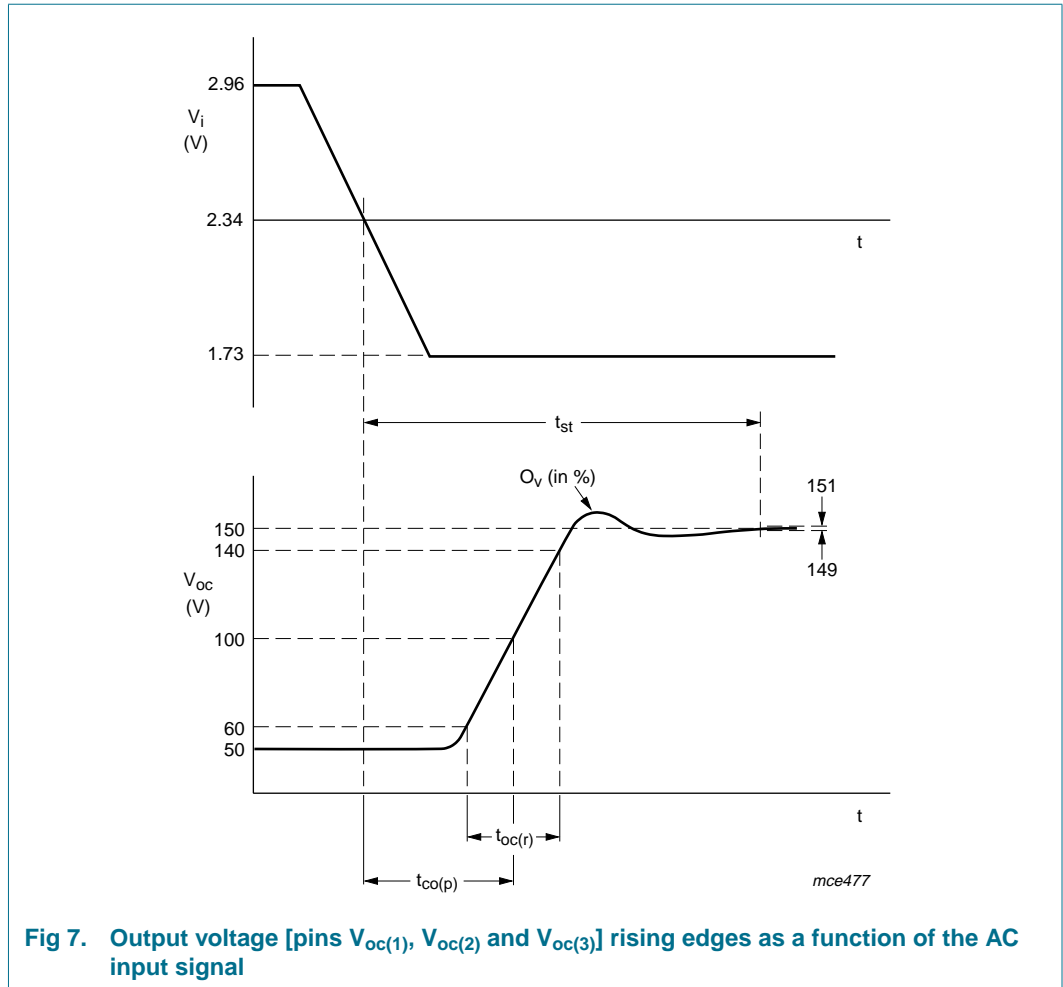
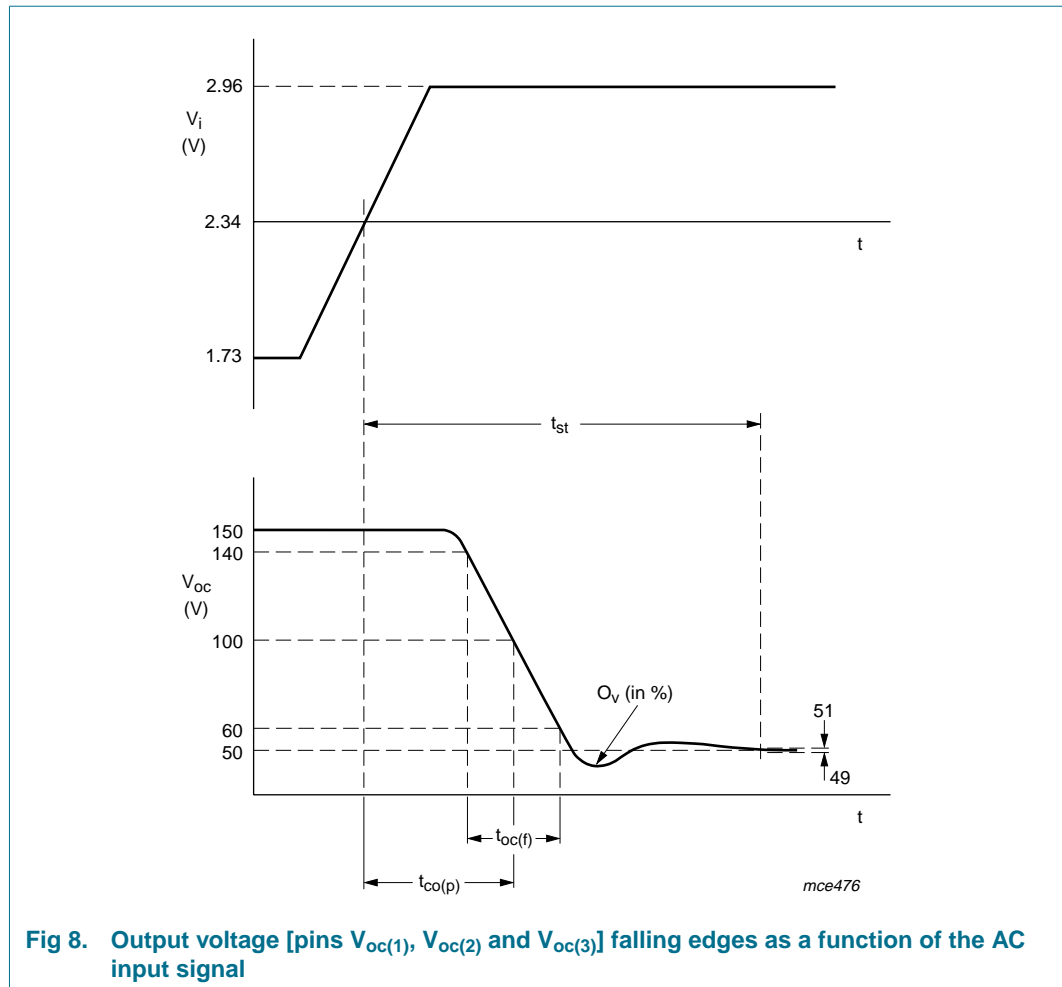

Fig 7. Output voltage [pins $V_{oc(1)}$, $V_{oc(2)}$ and $V_{oc(3)}$] rising edges as a function of the AC input signal
Fig 8. Output voltage [pins $V_{oc(1)}$, $V_{oc(2)}$ and $V_{oc(3)}$] falling edges as a function of the AC input signal
- [3] $f < 1\text{ MHz}$; $t_r = t_f = 40\text{ ns}$ [pins $V_{i(1)}$, $V_{i(2)}$ and $V_{i(3)}$] see Figure 7 and Figure 8.